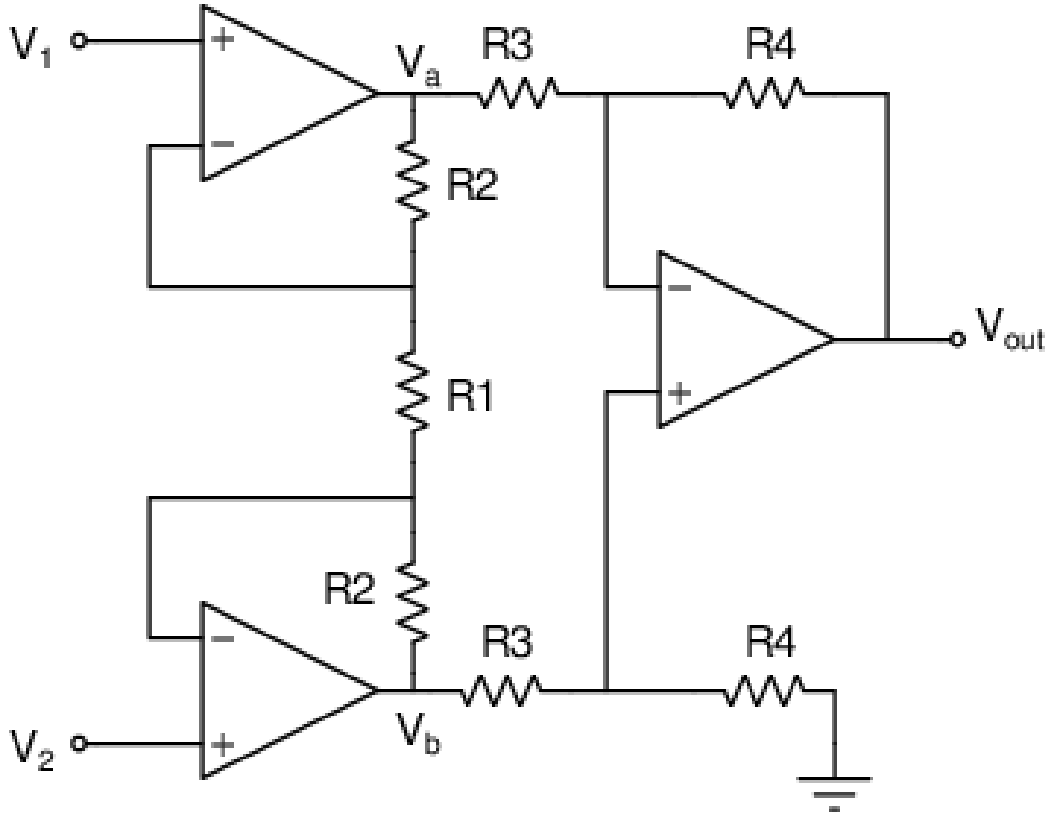

Figure 6: Circuit for Instrumentation Amplifier
- Refer to figure 6. Use Load Resistance of  $10k\Omega$ .  $V_+ = 12V$ ,  $V_- = -12V$  to power op-amp. Calculate the values of  $R_1$ ,  $R_2$ ,  $R_3$  and  $R_4$  properly to get a gain of about 300. Apply a single ended signal of  $20mV_{p-p}$  1kHz sine wave as input to tune the circuit to achieve the required amplification. Use decoupling capacitance if necessary.
The actual resistance values used in the figure 6 are  $R_1 = 1k$ ,  $R_2 = 1k$ ,  $R_2 = 0.97k$ ,  $R_3 = 0.98k$ ,  $R_3 = 0.98k$ ,  $R_4 = 98.9k$ ,  $R_4 = 99.2k$